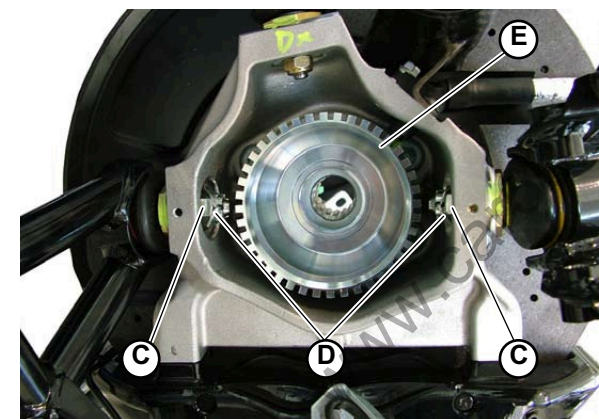

Fig.2
2. Tighten the 2 nuts (**C-Fig.2**) and insert the 2 split pins (**D-Fig.2**).
3. Position the phonic wheel (**E-Fig.2**) inside the hub carrier.